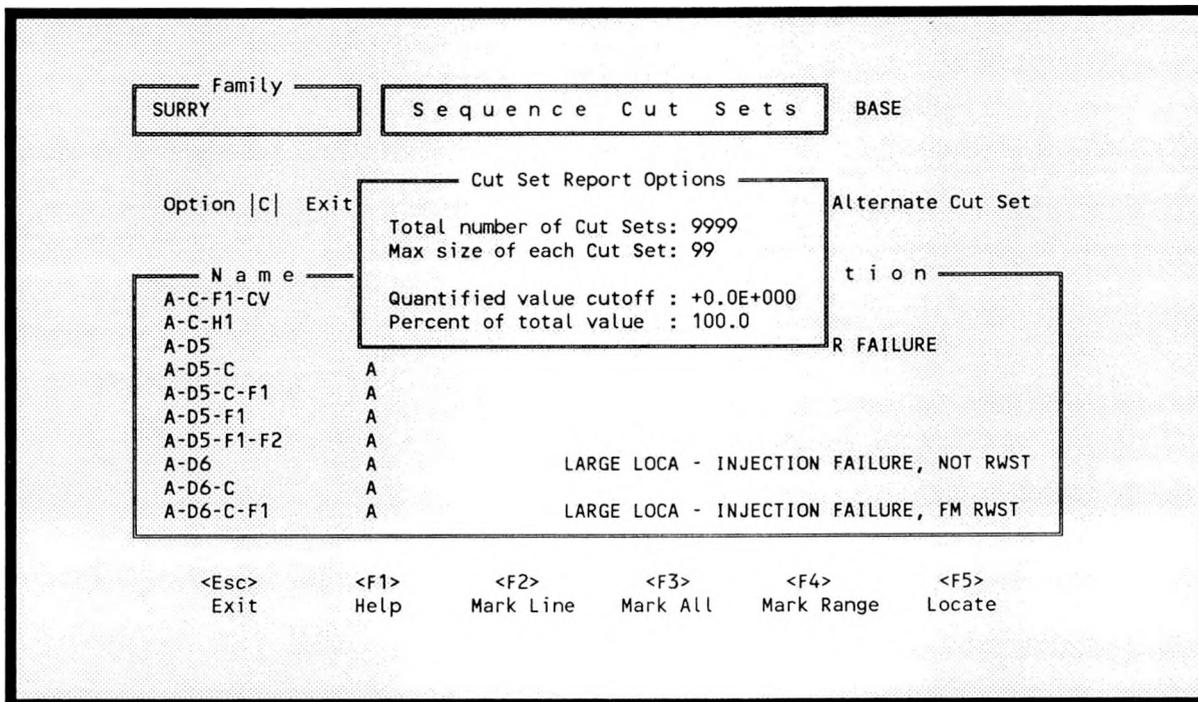

Figure 313. Cut set report options.
9.7.3.1 Cut Set. This option allows you to generate the Sequence Cut Sets Report, which consists of the cut set number, size and cut set name for each selected sequence. To invoke this option, mark the sequence(s) to include, enter a <C> in the option field, and press <Enter>. When you invoke this option, Figure 313 will be displayed. You can modify any of the default values provided by simply typing over the existing data. Upon pressing <Enter>, the output destination screen will be displayed. On this screen, you must select one of the following output destinations:
9.7.3.2 Quantified Cut Set. This option allows you to generate the Sequence Cut Sets (Quantification) Report, which consists of the cut set number, percent of total, percent of cut set, probability/frequency and all associated cut sets (alternate or base) for the selected sequence(s). To invoke this option, mark the sequence(s) to include, enter a <Q> in the option field, and press <Enter>. When you invoke this option, a screen similar to the one shown in Figure 313 will be displayed. You can modify any of the default values provided by simply typing over the existing data. Upon pressing <Enter>, the output destination screen will be displayed. On this screen, you must select one of the following output destinations: